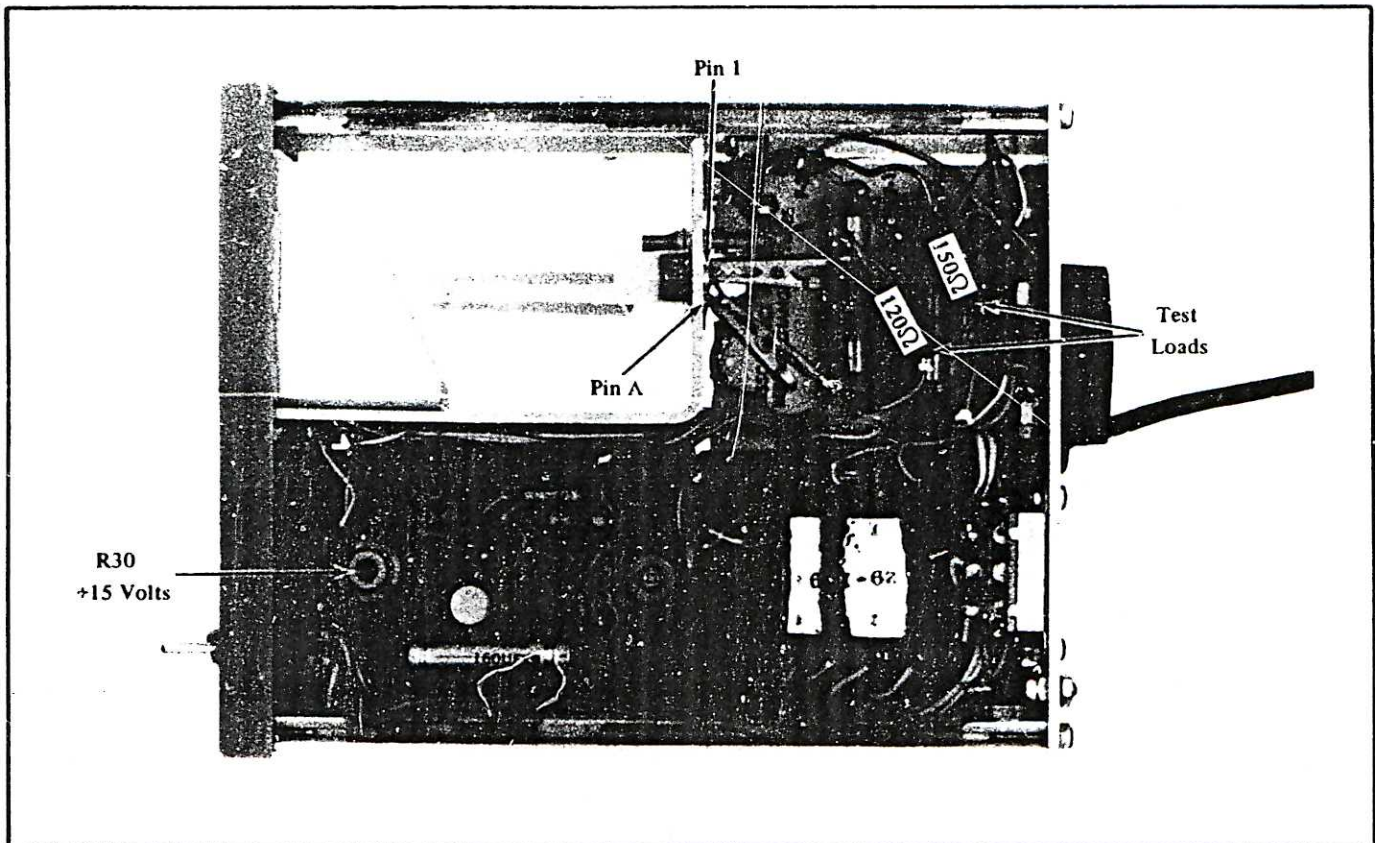

Fig. 5-1. Locations of test points and adjustment.
a. Set the oscilloscope trace at the graticule center line. Connect the 1X probe to pin 1 at the 150 Ω resistor in the Type 285. Fig. 5-1 shows the locations of test points and the adjustment.